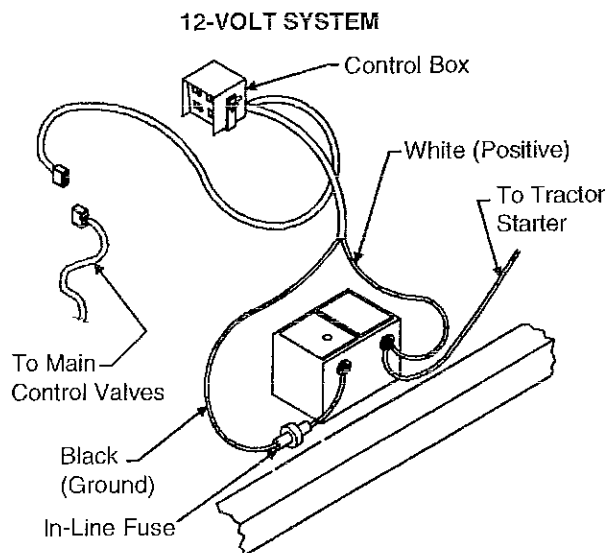

Figure 8. Control Box Power Connection
1. Install the control box in the cab of the tractor and connect the power cord to a suitable 12 V power supply as shown in Figure 8. (White to Positive, Black to Negative).